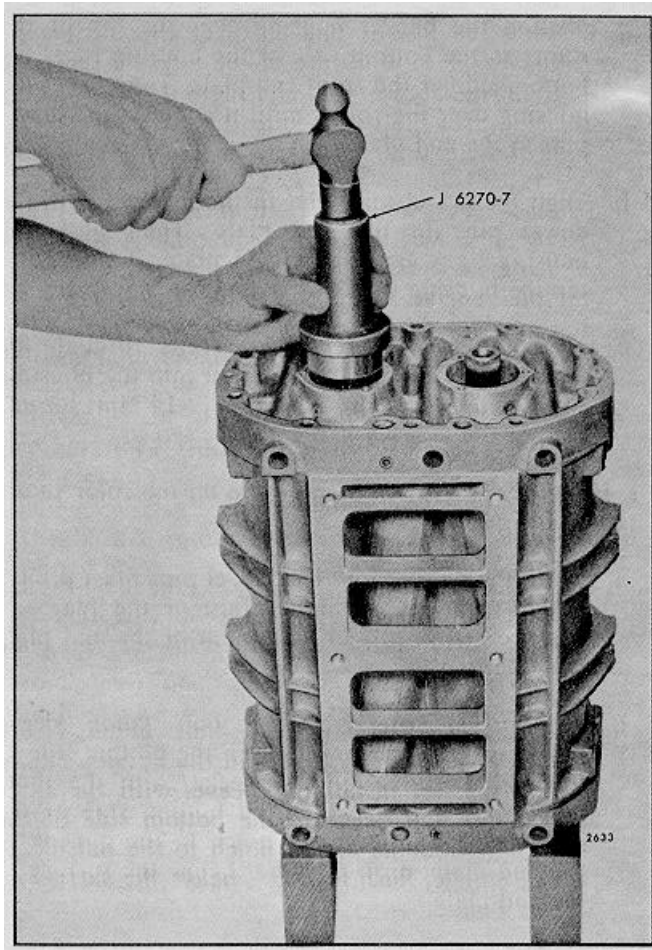

FIG. 20 - Installing Ball Bearings on Rotor Shafts and in Rear End Plate
- b. Place installer J 6270-7 on top of the bearing and tap the bearing straight on the shaft and into the rear end plate as shown in Fig. 20.